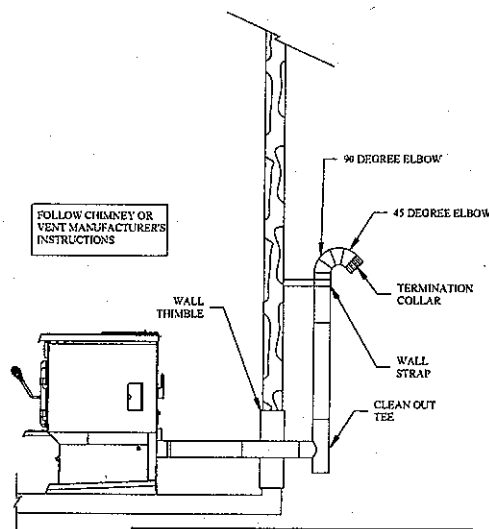

FIGURE 7
A. HORIZONTALLY THROUGH WALL (refer to Figure 7 & 8)